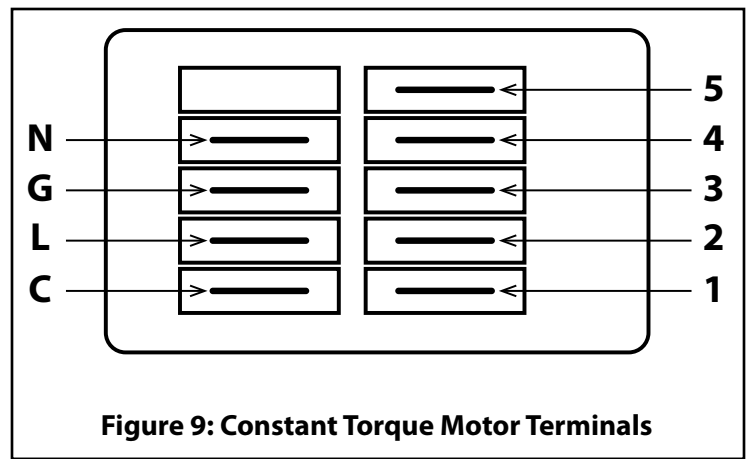

Figure 9: Constant Torque Motor Terminals
5. Refer to Figure 9 and Table 1 for the motor terminal connections.